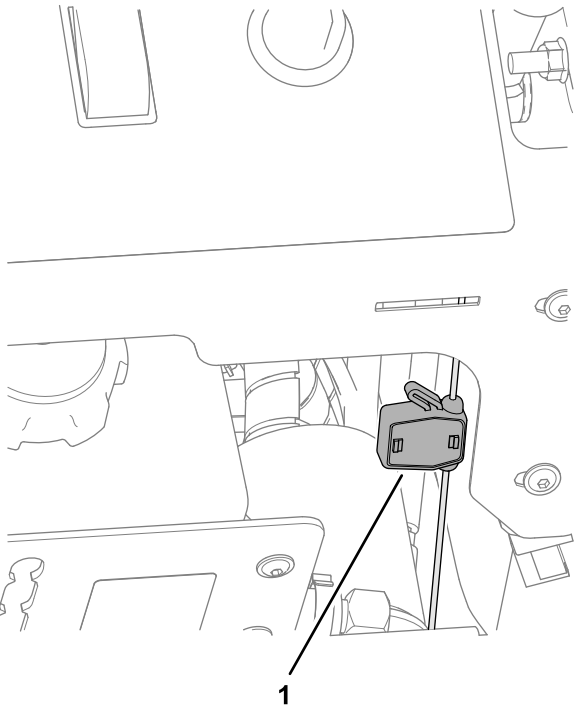
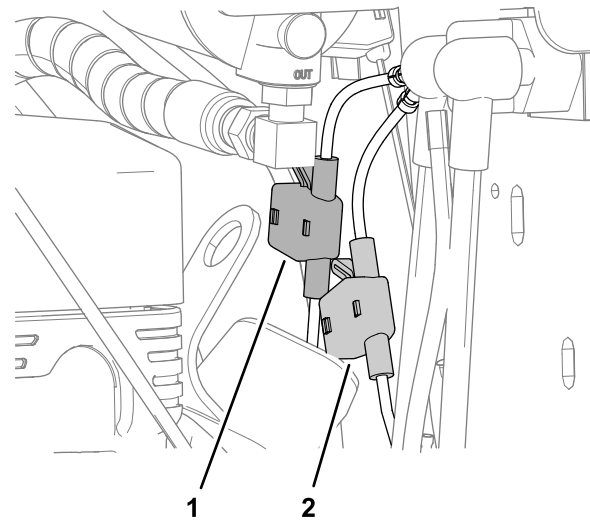

Figure 85
Figure 86
2. Open the cover of the fuse holder (Figure 85 or Figure 86).
3. Pull the fuse from the socket of the fuse holder (Figure 85 or Figure 86).
4. Install a fuse of the same type into the socket of the fuse holder (Figure 85 or Figure 86).
5. Close the cover onto the fuse holder until the cover latches securely (Figure 85 or Figure 86).